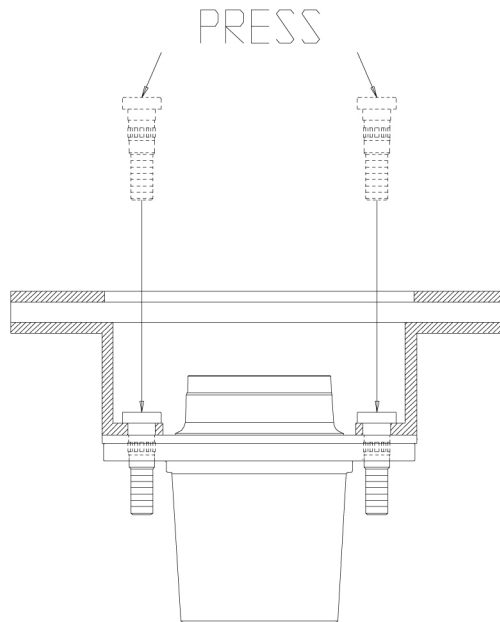

Figure 6. Stud press diagram
1. Place the brake rotor on the wheel hub aligning the holes. See Figure 6.